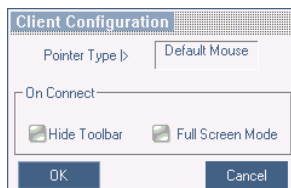

Figure 22 Client Configuration box
**Local Settings** – Click Local settings, the Client Configuration box appears, see Figure 22